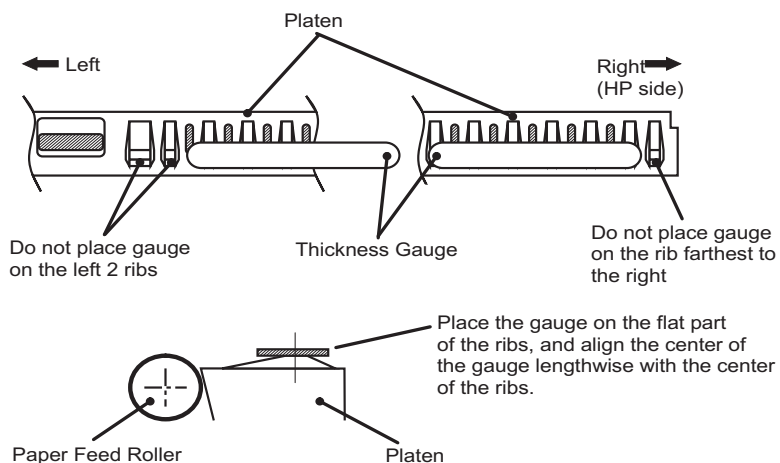

Figure 5-1. Gauge Placement
3. Move the carriage to the center of the platen. Then set the thickness gauge on the right side of the platen as shown in Figure 5-1 on the next page.
- **Put the thickness gauge on the flat part of the platen ribs, as shown in Figure 5-1.**
8. Perform steps 2 through 7 to adjust the left parallelism adjustment bushing. But this time set the thickness gauge on the left side of the platen (see Figure 5-1).